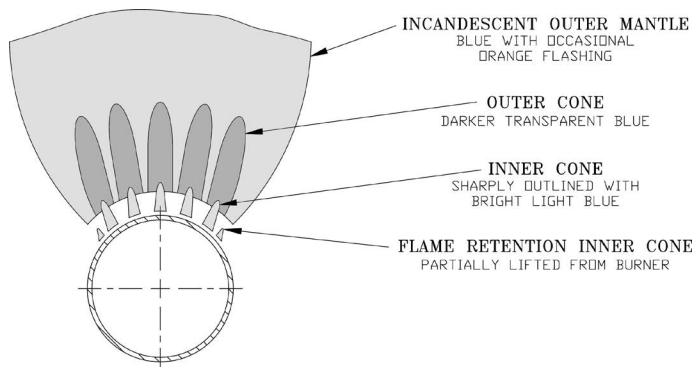

Figure 44: 40mm Main Burner Flame
3. Check main burner flames. See Figure 44 or 45. Flame should have clearly defined inner cones with no yellow tipping. Orange-yellow streaks caused by dust should not be confused with true yellow tipping.